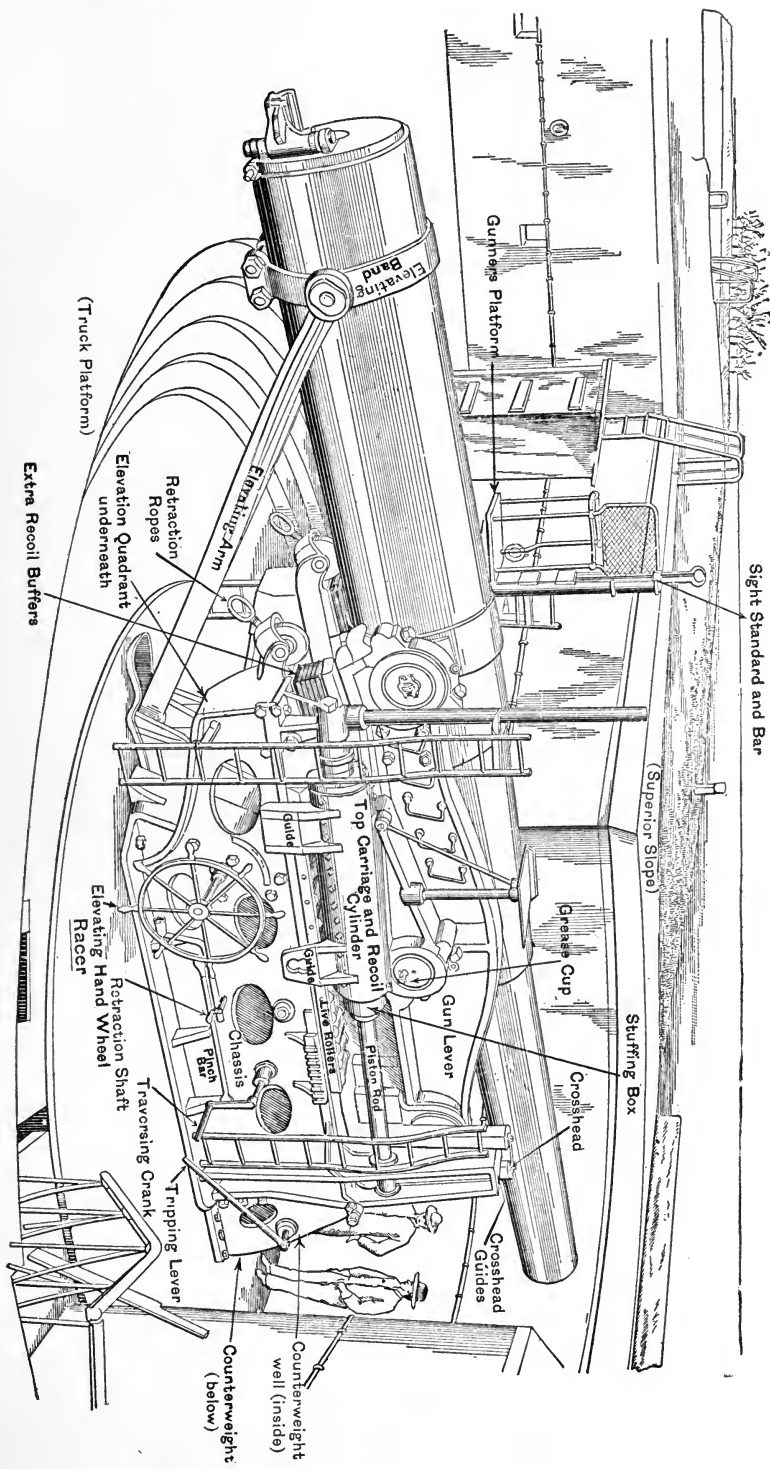

FIG. 12.
A. See Figs. 12 to 22 inclusive.